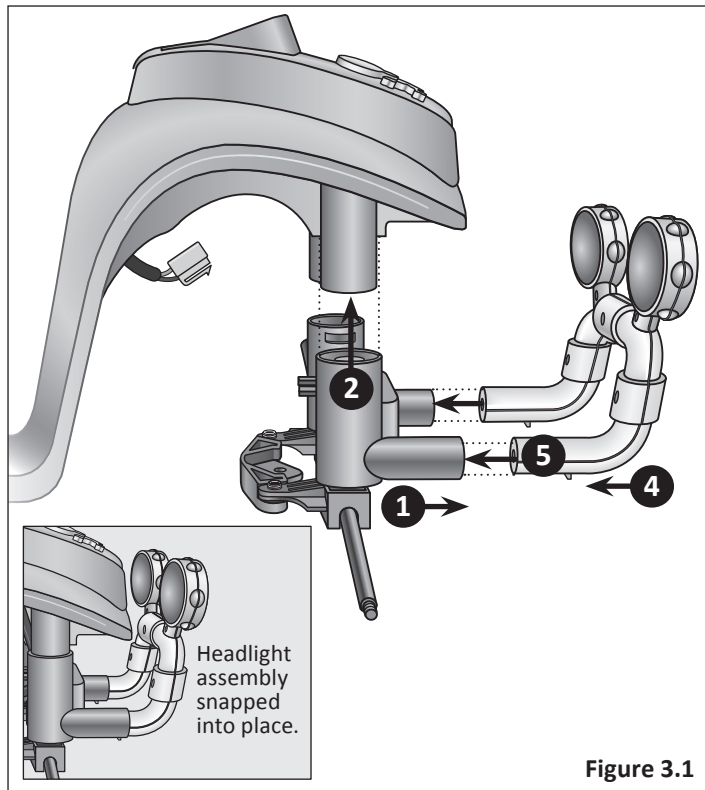

Figure 3.1
- 1 Position the front axle assembly so the two front tubes are facing away from the vehicle body. **Figure 3.1**